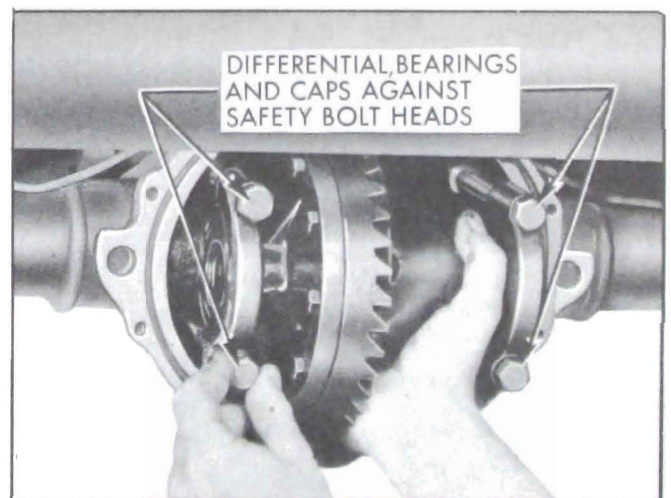

Figure 6-11—Differential Assembly Supported by Safety Bolts
5. When differential is pried past a certain point, it will suddenly fall free. However, safety bolts installed in Step 3 will catch assembly. See Figure 6-11. Support differential with one hand and remove safety bolts. Place right and left bearing outer races and shims in sets with marked bearing caps so that they can be reinstalled in their original positions.